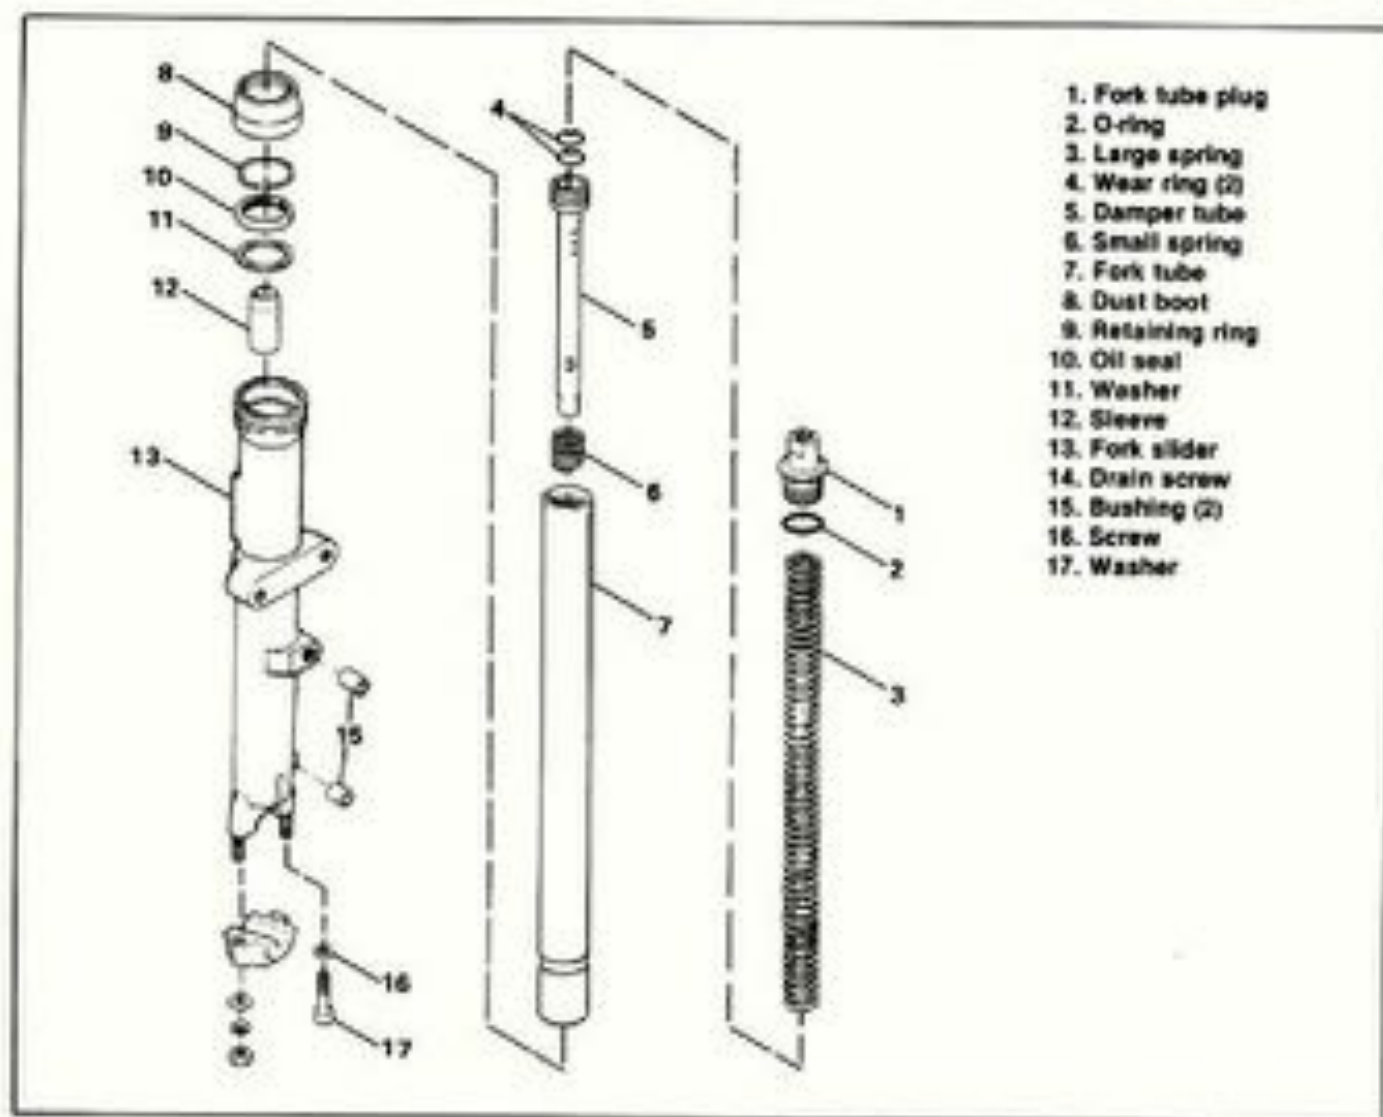

Figure 2-76. Front Fork — 1980 And Earlier FXWG/FXDQ
**Disassembly 1983 and Earlier FXWG and FXDG (Figure 2-76)**
1. Remove the fork tube plug (1) and O-ring (2). Remove the drain screw (14) and drain the fork oil.
2. Remove the screw (16) and washer (17) from the bottom of the fork side. Pull the fork tube (7) and dust boot (8) from the slider (13). If the seal (10) has to be replaced, remove the retaining ring (9) and pry the seal out. Install a new seal and secure it with the retaining ring.
3. Remove the large spring (3), damper tube (5) and small spring (6). Remove the wear rings (4) from the damper tube.
**Assembly 1983 and Earlier FXWG and FXDG (Figure 2-76)**
1. Install the wear rings (4) on the damper tube (5). Install the small spring (6) and damper tube. Install the large spring (3) O-ring (2) and fork tube cap (1).
2. Install the fork tube (7) and dust boot (8) to the fork slider (13). Fasten them together using the washer (17) and screw (16).
3. Install the drain screw (14) and fill the fork side with fork oil as specified in **CHANGING THE FORK OIL**.
Make sure one flat on each fork tube cap (1, Figure 2-76) faces toward the inside of the fork.